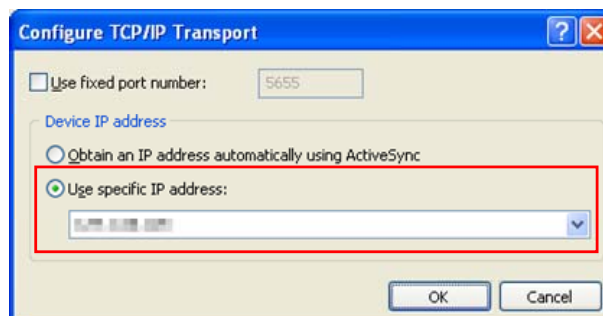

Figure 4.12
6. Click **Transport:** to access **Configure...** and set up **Device IP address** as shown in Figure 4.12.